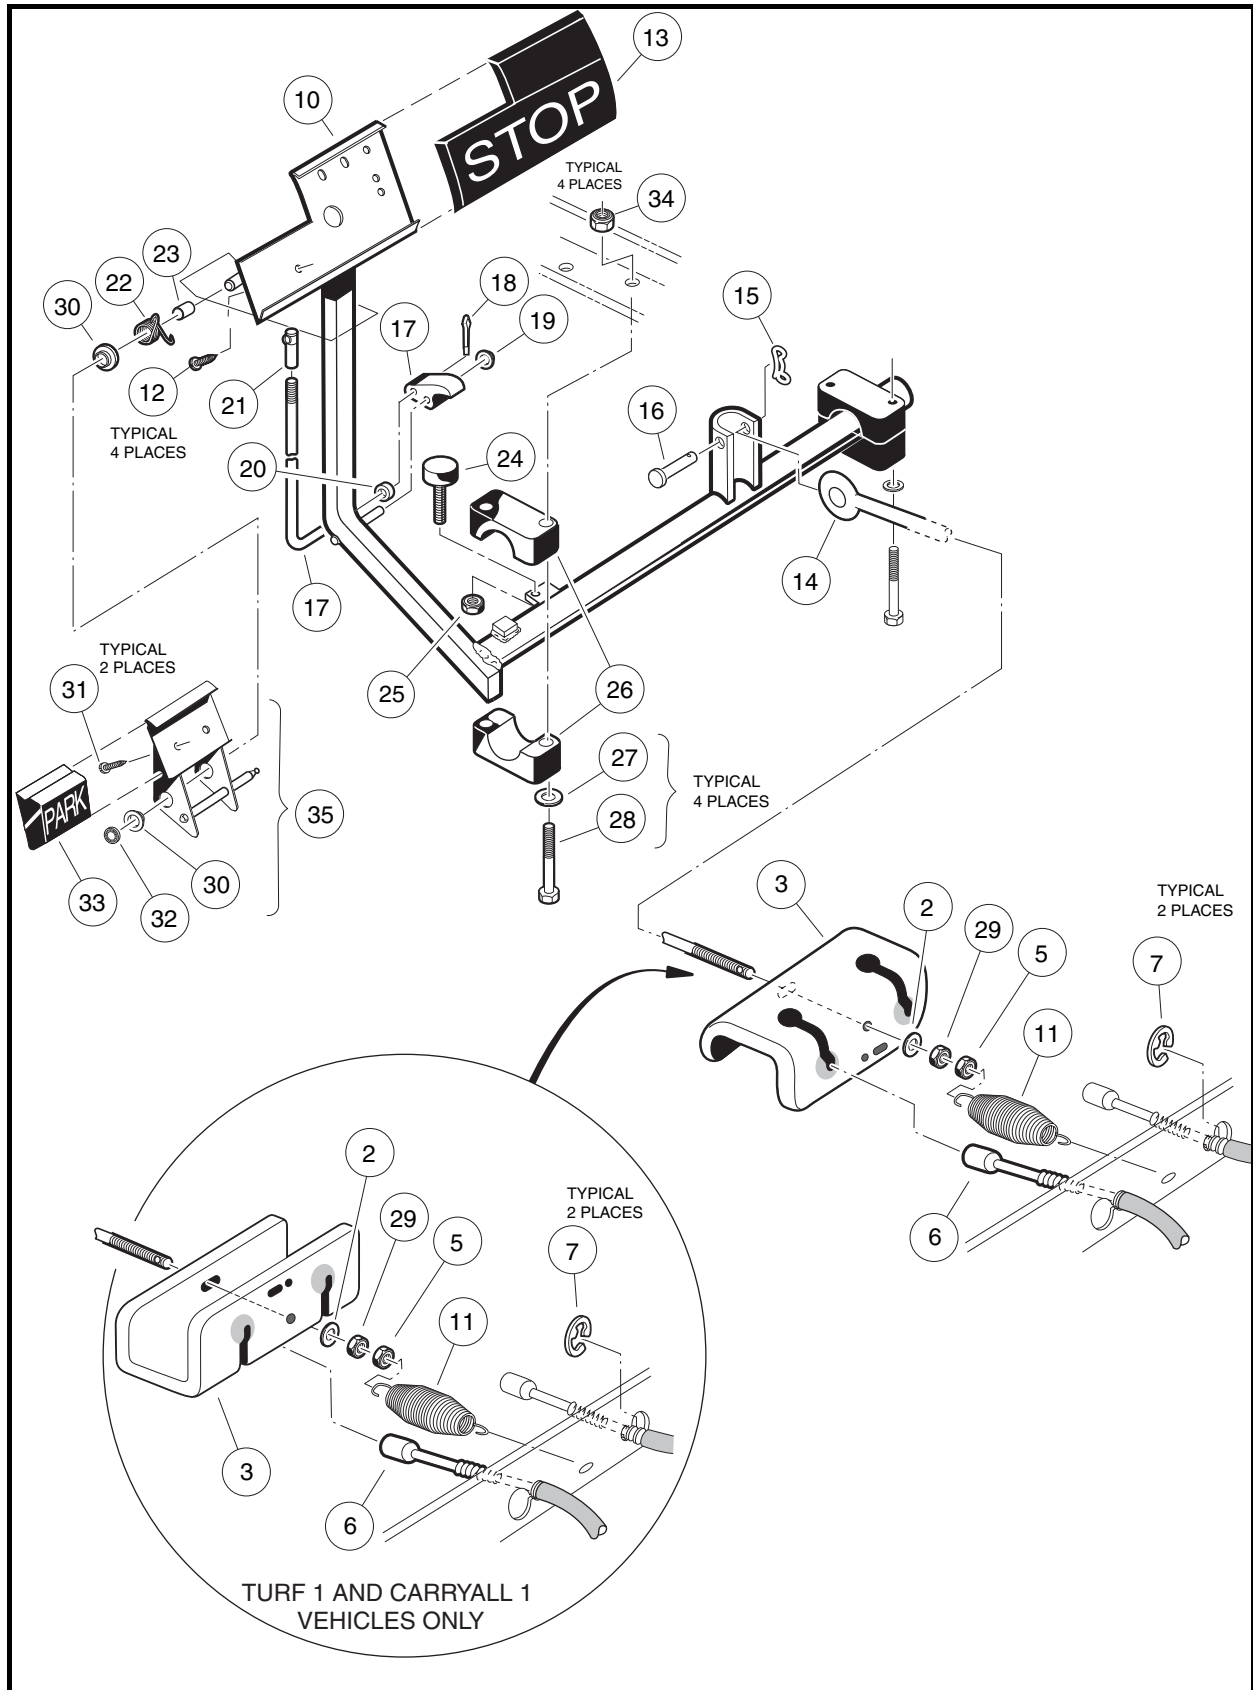
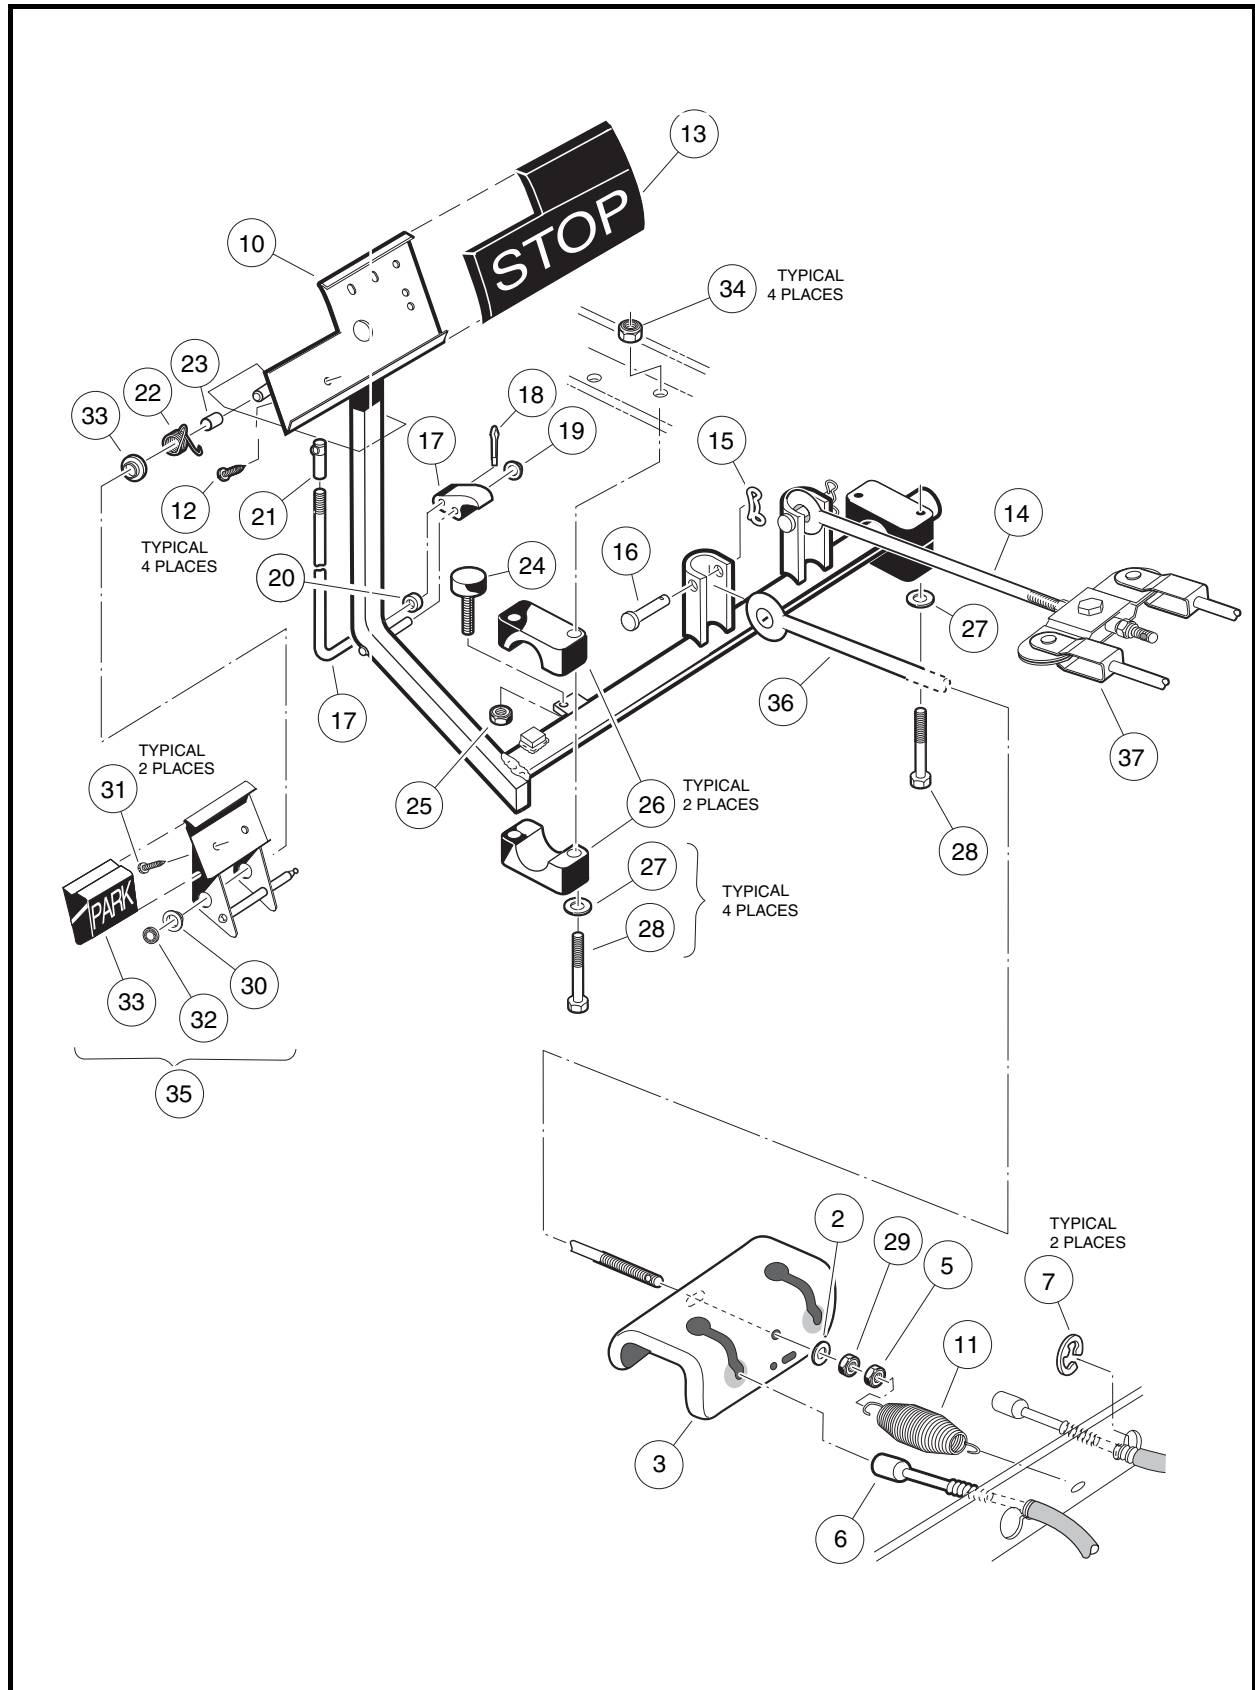
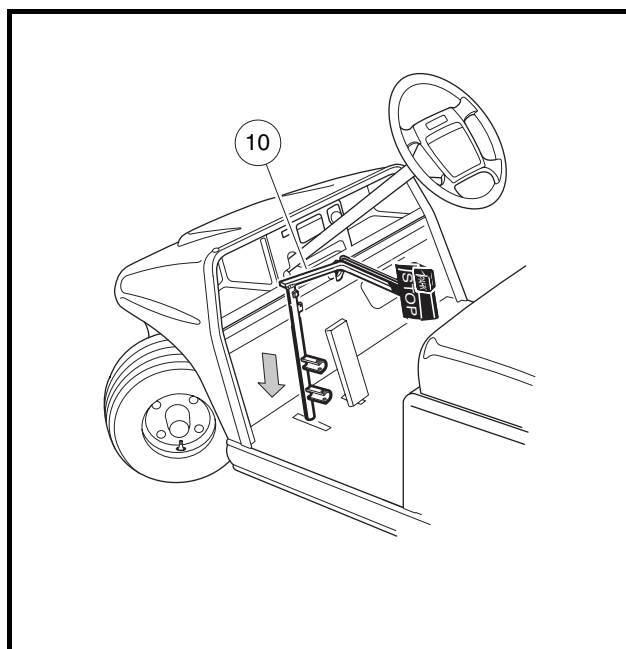

Figure 5-1 Brake and Park Brake Pedal Assembly and Mounting – Two-Wheel Brake Vehicles
Figure 5-2 Brake and Park Brake Pedal Assembly and Mounting – Four-Wheel Brake Vehicles
Figure 5-3 Brake Pedal Weldment Through Floor
- 3.1. Disconnect the equalizer rod(s) (14 and 36) from the pedal shaft by removing the clevis pin(s) (16) and bow-tie pin(s) (15) (**Figure 5-1, Page 5-2 or Figure 5-2, Page 5-3**).
- 3.2. Remove the nuts (34), flat washers (27), bolts (28), and mounting blocks (26). If the mounting blocks (26) show signs of excessive wear or are damaged, they must be replaced with new ones before installing pedal assembly (**Figure 5-1, Page 5-2 or Figure 5-2, Page 5-3**).
- 3.3. Remove the nut (25) and brake stop bumper (24) (**Figure 5-1, Page 5-2 or Figure 5-2, Page 5-3**).
- 3.4. Lift the pedal assembly (10) through the floorboard (**Figure 5-3, Page 5-4**).
1. From the top side of the floorboard, insert the brake pedal assembly (10) (**Figure 5-1, Page 5-2 or Figure 5-2, Page 5-3**) through the opening in the floor as shown (**Figure 5-3, Page 5-4**) and install the brake pedal stop bumper (24) (**Figure 5-1, Page 5-2 or Figure 5-2, Page 5-3**) on the brake pedal assembly, but do not tighten the jam nut (25) at this time.
2. Secure the equalizer rod(s) (14 and 36) to the brake pedal assembly (10) with clevis pin(s) (16) and bow-tie pin(s) (15) as shown (**Figure 5-1, Page 5-2 or Figure 5-2, Page 5-3**). Tighten to 17 in-lb (1.9 N·m). **See following NOTE.**
3. Position and attach brake pedal assembly, mounting blocks (26), and washers (27) to vehicle frame as shown. Tighten the bolts (28) and nuts to 113 in-lb (12.8 N·m) (**Figure 5-1, Page 5-2 or Figure 5-2, Page 5-3**).
- 3.1. To remove the park brake rod and pawl assembly (17 through 20), remove the push nut (19) and disconnect the ball joint sleeve (21) from the park brake pedal (35) (**Figure 5-1, Page 5-2 and Figure 5-2, Page 5-3**). See following **NOTE**.